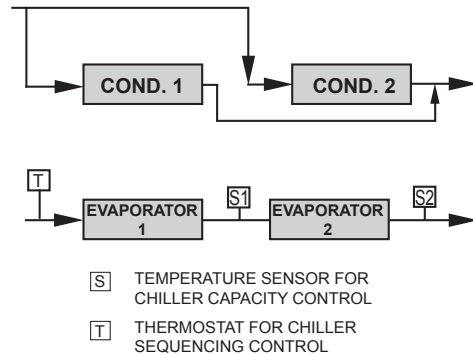
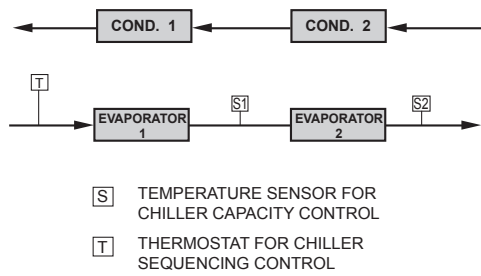

FIG. 2 – SERIES EVAPORATORS
FIG. 3 – SERIES COUNTERFLOW
**Series Arrangement** (Refer to Fig. 2 & Fig. 3) – The chillers may be applied in pairs with chilled water circuits connected in series and condenser water circuits connected in series or parallel. All of the chilled water flows through both coolers with each unit handling approximately one-half of the total load. When the load decreases to a customer selected load value, one of the units will be shut down by a sequence control. Since all water is flowing through the operating unit, that unit will cool the water to the desired temperature.